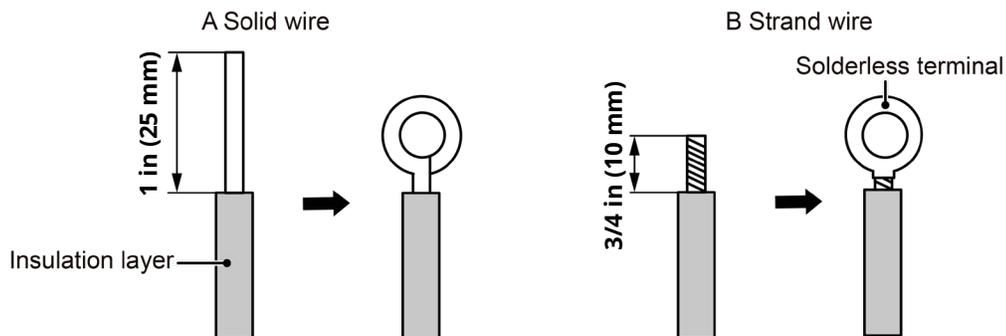
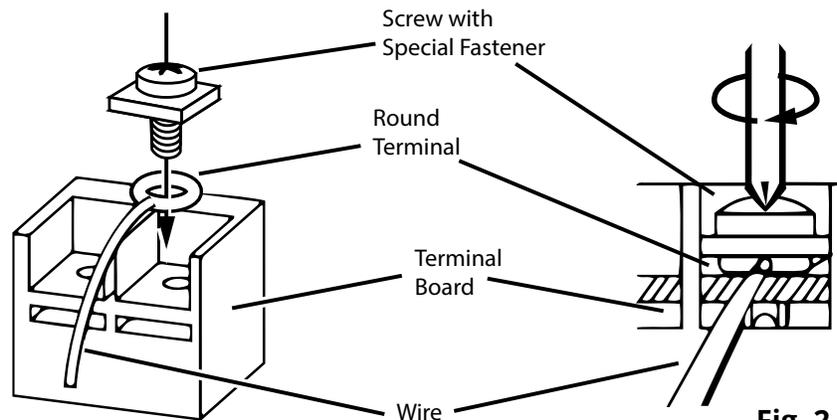

Fig. 2.11
Fig. 2.12
For solid wires (Refer to **Fig. 2.11 A**):
For braided/strand wires (Refer to **Fig. 2.11 B & Fig. 2.12**):
4. Locate the round terminal conduit. Use a screwdriver to replace it and tighten the terminal screw (as shown in **Fig. 2.12**).